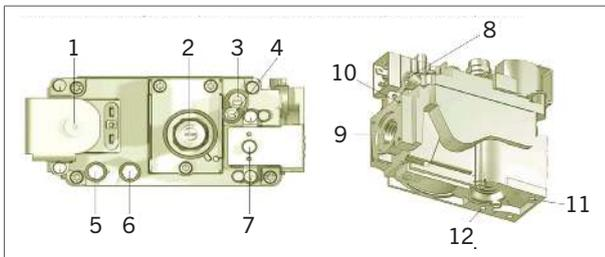

Figure 27 - Main parts of the gas valve XR80+ - XR120+
The gas valve is adjusted with two screws (figure 27):
**DANGER!** Always measure the air heater's CO production. Too much CO usually means the gas mixture is too rich. Adjust this if necessary with the two adjusters (figure 27). The concentration of CO should always be below 100 ppm.